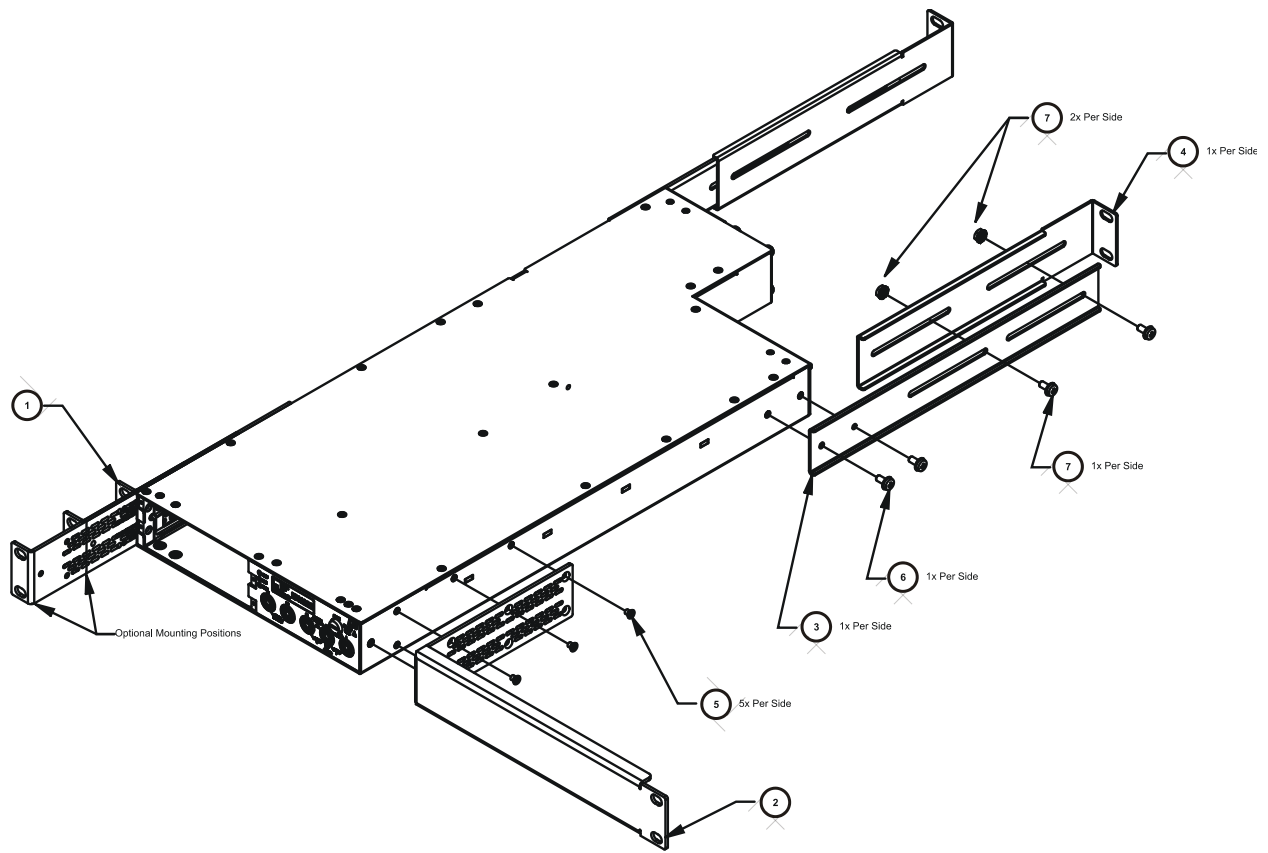

FIGURE 2-6: HALF RACK WIDTH RACKMOUNT INSTALLATION DIAGRAM (EXPLODED FRONT VIEW)
- 2) Using a #2 Phillips screwdriver, install the rack ears (P/N: 41-0482-009 and 41-0493-011) on the front of the EX1202A using five (5) 6-32 x 3/8" flat head Phillips stainless steel screws (P/N: 37-0114-025) for each rack ear. Note that the "Optional Mounting Locations" in Figure 2-6 allow the EX1202A to be installed in a rack either flush or recessed.
- 3) Next, attach the unit support brackets (P/N: 41-0482-010) to the EX1202A using two (2) 6-32 x 3/8" pan head Phillips SEMS screws (P/N: 37-0028-037) for each bracket (see Figure 2-6).
- 4) Place the rear rack support brackets (P/N: 41-0482-011) on the inside of the unit support brackets installed in step 3 and loosely secure them using two (2) 8-32 x 3/8" pan head Phillips SEMS screws (P/N: 37-0073-037) and two (2) KEPS hex nuts (P/N: 37-0200-832) per bracket. Loosely installing the hardware will allow the rear support bracket to adjust to the proper length once installed in a rack.